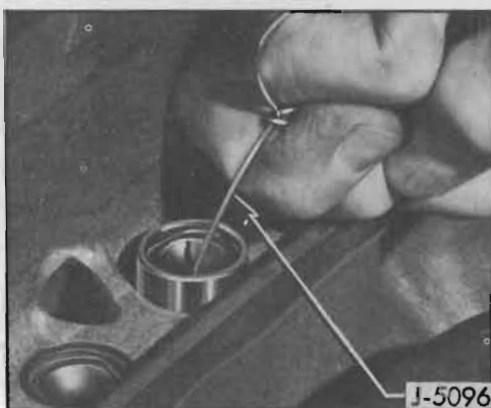

Figure 2-12—Removing Lifter with Hook J 5096
3. Insert Hook J 5096 through hole in push rod seat and remove valve lifter. See figure 2-12.